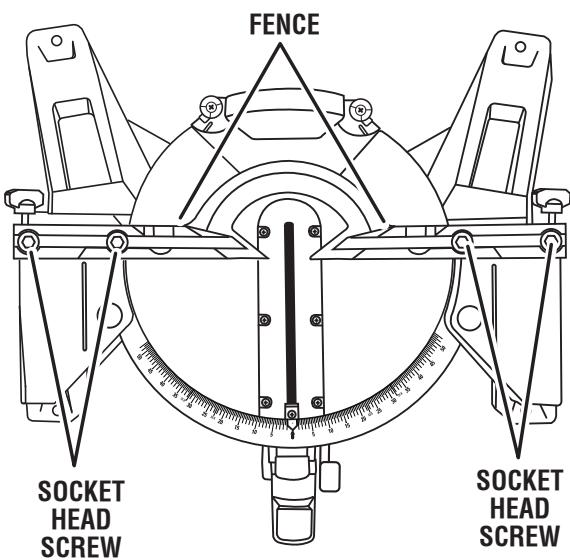

Fig. 21
- Using the blade wrench, loosen the socket head screws that secure the fence to the miter table. *See figure 21.*